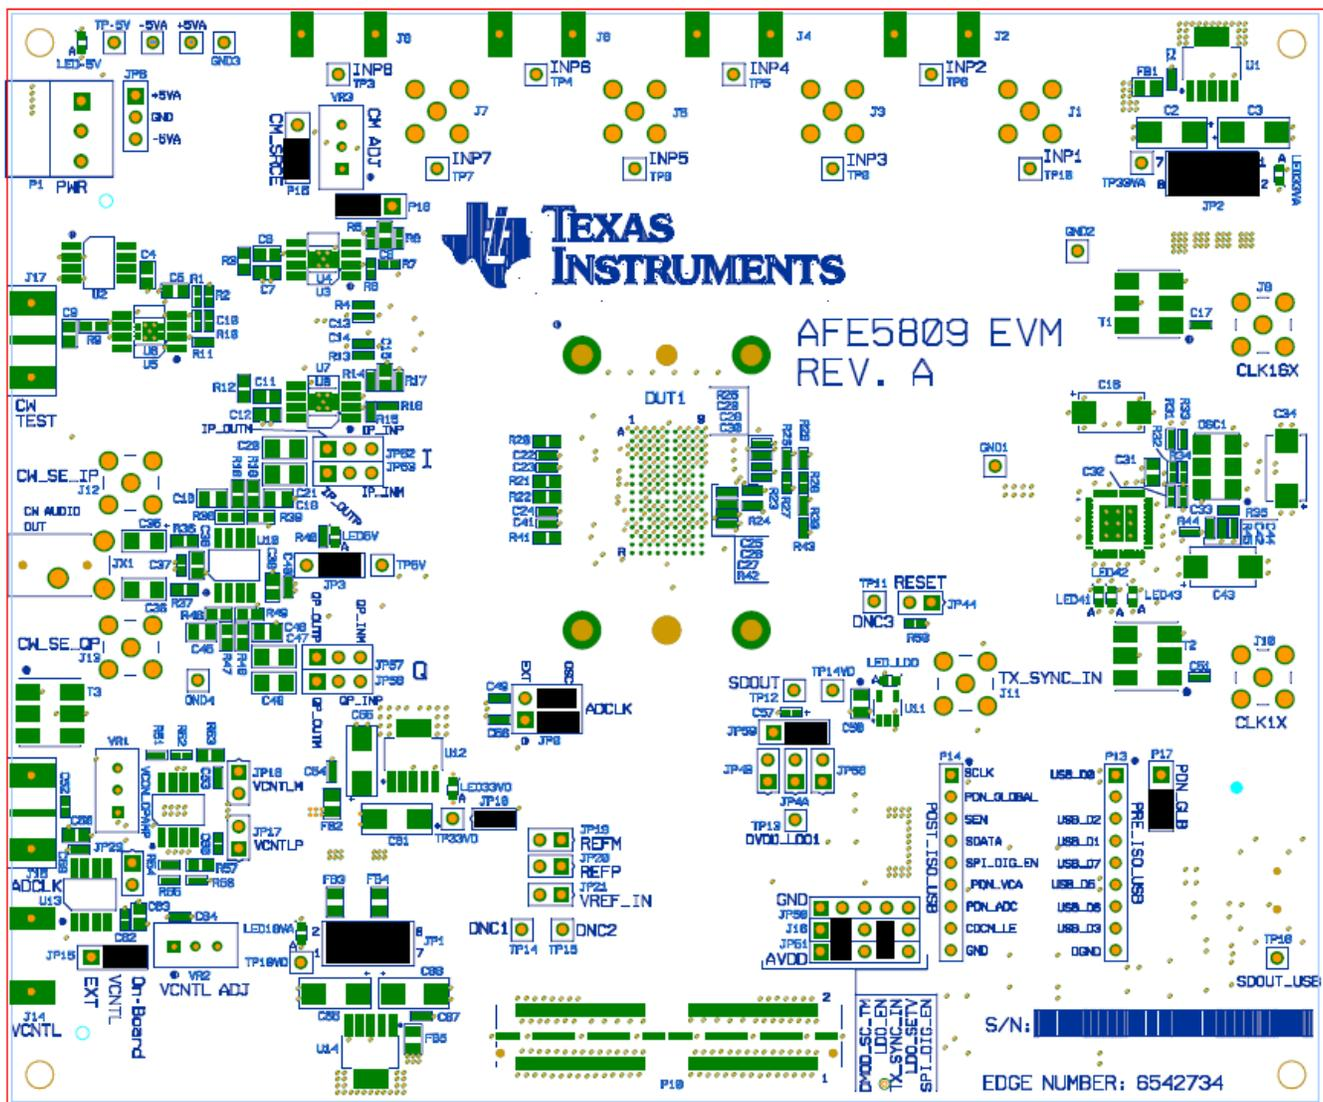

Figure 1. AFE5809EVM Basic Configuration
Figure 1 shows the default configuration of the EVM from the factory. The accompanying list identifies the basic components on the EVM board.
10. JP16 is set to enable the demodulator internal LDO, as shown in Figure 1.
Two EVMs are required to evaluate the AFE5809 device. Figure 2 shows the exact setup of these two boards and external connectors. For the default configuration shown in Figure 1, having an external sampling clock and external Vcntl supply is unnecessary. The onboard CMOS clock and onboard Vcntl are used.